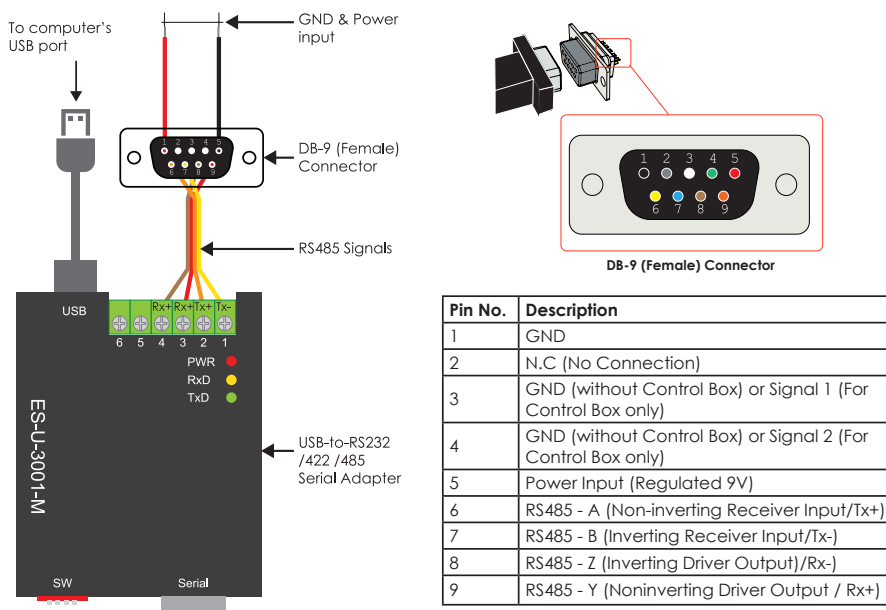

Figure 19. Constructed custom cable and pinout of the DB9 (Female) connector
1. Prepare the custom cable. The constructed custom cable and the pinout of the DB9 (Female) connector is shown in Figure 19.